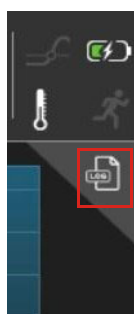

Figure 6-12. Log File Button
1. If desired, press the **Log** button to save the measurement data to a log file. Refer to Figure 6-12.